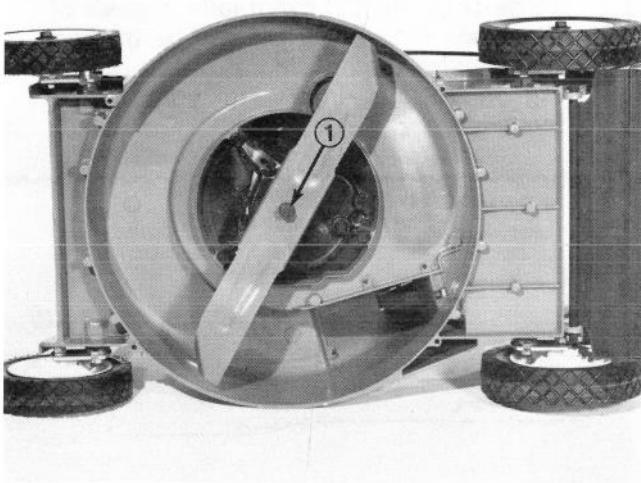

Figure 35
4. Grasp end of blade using a rag or thickly padded glove. Remove capscrew, lockwasher and blade (Fig. 35).
3. Tip mower on its right side (Fig. 35), opposite the spark plug side, and allow it to remain tipped for only a short time. Avoid rotating the blade when mower is tipped because starting problems may result.